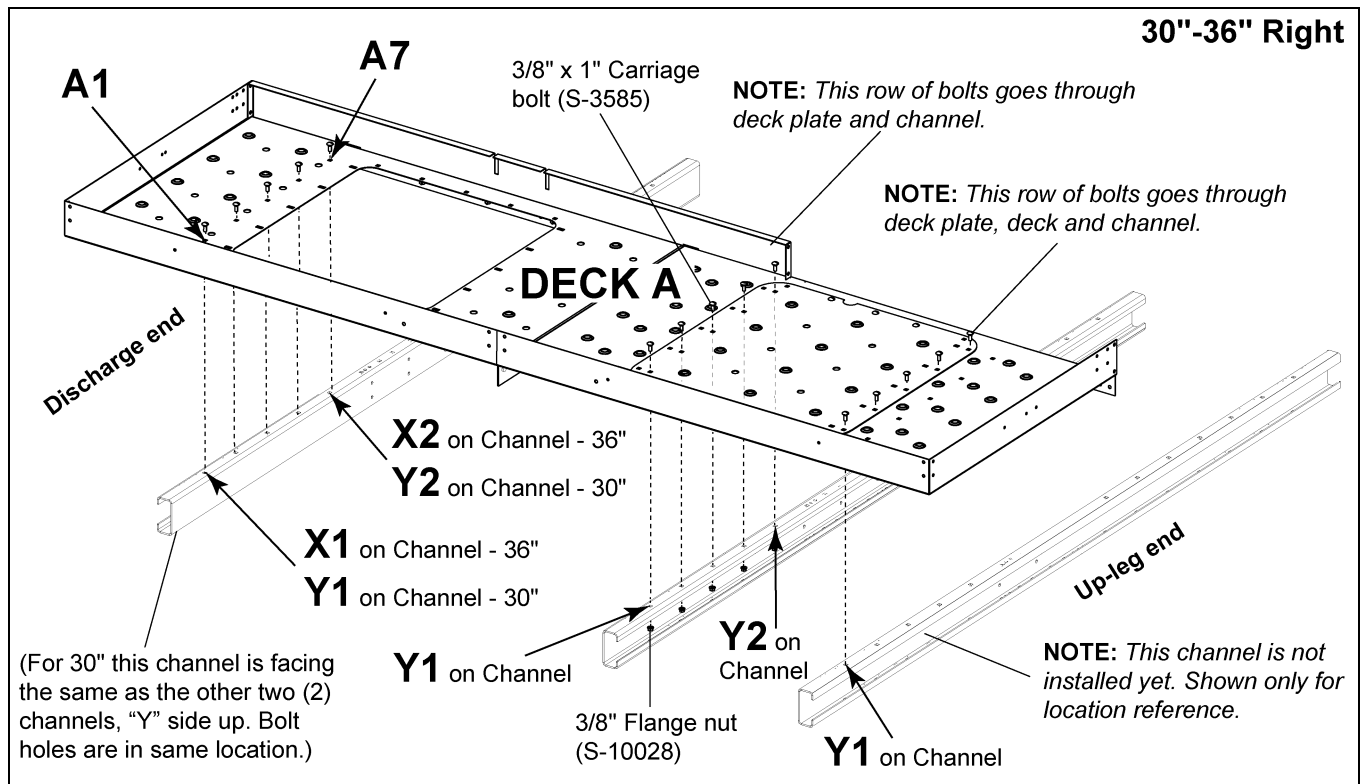

Figure 8H
3. At the **Discharge End**, use a punch as needed to line up. (See Figure 8H.)
- b. At the **hatch side** - channel hole **Y1** on the cross deck support channel to Deck A and deck plate cover. (See Figure 8H on Page 52.)